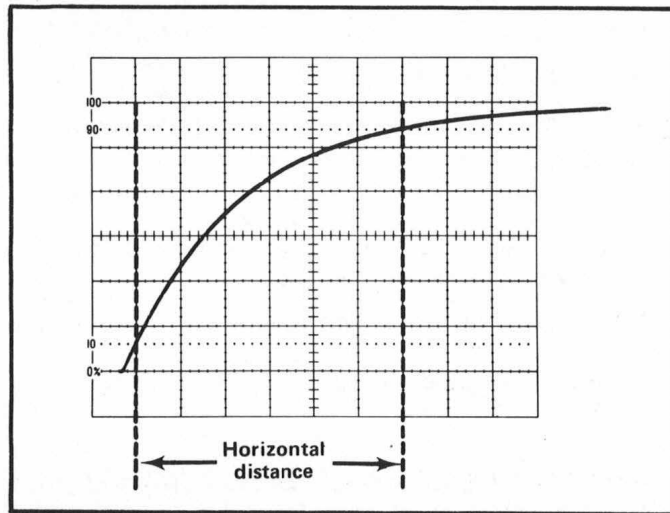

Fig. 5. Measuring risetime.
7. Adjust the horizontal POSITION control to move the 10% point of the waveform to the second vertical line of the graticule (see Fig. 5).
Example. Assume that the horizontal distance between the 10% and 90% points is six divisions (see Fig. 5) and the TIME/DIV switch is set to $1 \mu s$.